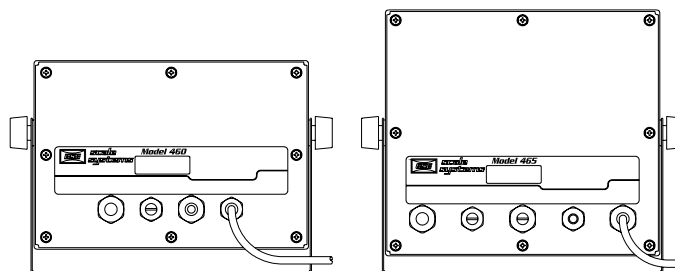

Figure 2-1: Model 460 Outline Drawing (Standard Enclosure)
3. Using a #2 cross-tip (Phillips) screwdriver or an 8mm socket, remove the eight 8-mm hex head screws from the rear panel (see Figure 2-1).